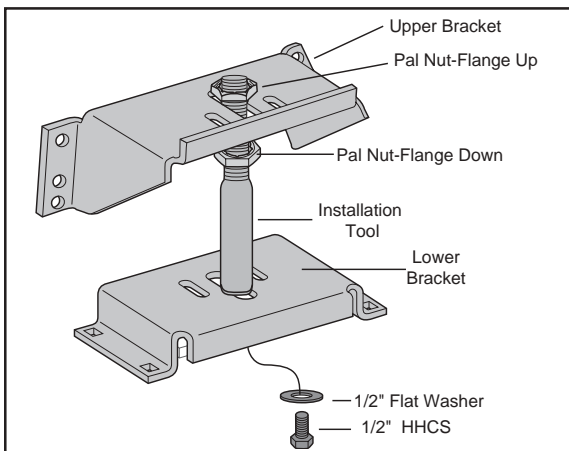

Figure 3
**3. Assemble the upper and lower bracket to the alignment tool.** This tool is designed to help you properly install the kit for correct height and alignment. The range of adjustment to attain the correct mounted height is determined by the upper threaded section of the tool. The kit may be mounted anywhere in that range (Figure 3).
**4. Place the upper bracket “legs down” onto the threaded end of the tool resting on the bottom Pal nut.** Then thread a second Pal nut (flange up) onto the tool to hold the bracket in place. Leave loose for later adjustment. (Figure 3).
**5. Use the 1/2" x 7/8" hex head bolt and flat washer to attach the lower bracket to the bottom of the installation tool with the open edge of the lower bracket toward the legs of the upper bracket. Leave loose enough to adjust in and out (Figure 3).**